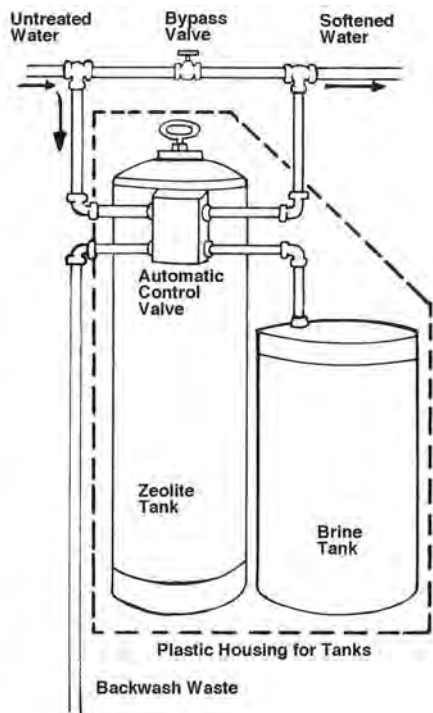

Figure 2. Automatic water softener – two tanks.
- Figure 2. Automatic water softener – two tanks
A two-tank softener with automatic controls can be programmed to regenerate itself as needed (Figure 2). The regeneration cycle first back-flushes the tank to remove dirt and oxidized iron or manganese that has been filtered out on top of the resin material. Then a brine solution from the salt tank flushes the zeolite tank to recharge the resin material with salt ions and release the calcium and magnesium ions. The zeolite tank is then rinsed with clear water to flush out the brine material. This procedure is usually programmed to occur late at night, because the softener is out of service during the regeneration cycle.